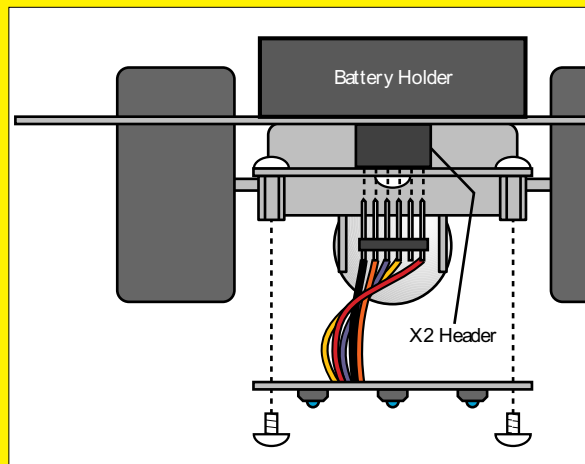

Figure 7. Mount the line tracker to the support bar and plug into the X2 header.
2. Plug in the six pin connector into the X2 header on the bottom of the OctoBot (double-check its orientation!) and secure the line tracker board to the two standoffs with the line tracking sensors facing downward and positioned toward the front of the robot, as shown in Figures 7 and 8.